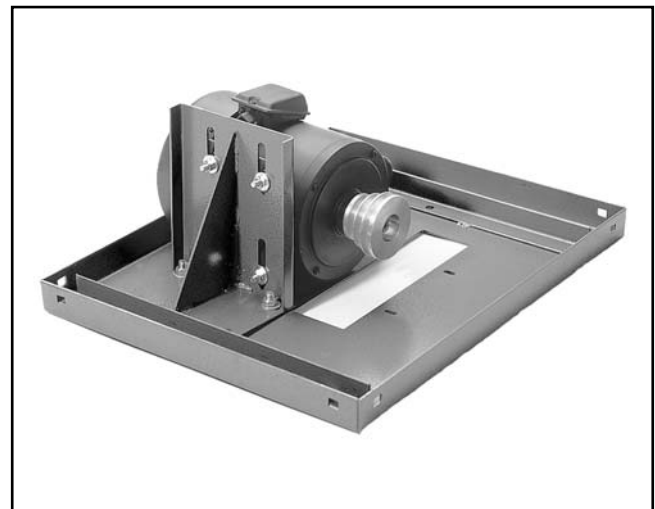

Figure 4. Motor attached to motor mount bracket.
2. Position the motor so the pulley is over the rectangular hole in the stand top as shown in **Figure 4**. Secure with four (4) $\frac{5}{16}$ "-18 x 1" carriage bolts, $\frac{5}{16}$ " washers, and $\frac{5}{16}$ "-18 nuts provided.